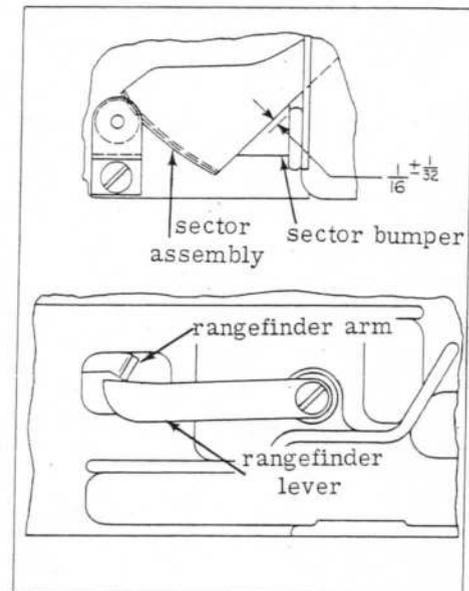

Figure 18A. Lever & Sector Assembly
1. If two rangefinder windows (26) have been removed, cement in place in housing sub assembly using Cordo #2055 adhesive and insert two window retainers (25).
2. Position sector assembly (18), lockwasher (17), rangefinder lever (15). Assemble machine screw (16) but do not tighten.
3. Assemble pinion (14), pinion spring (13), pinion bracket (10). Assemble machine screw (12) and machine nut (11). Tighten machine screw (12) first, then machine nut (11). Tighten machine screw (16). Assemble tail of pinion spring in gear tooth of pinion. Disengage sector assembly from pinion by lifting upward and apply approximately four turns initial tension on focusing pinion shaft and re-engage sector assembly so that gear tooth, with spring, does not engage in a tooth of sector assembly during its travel. Position of lever assembly and sector assembly is illustrated in figure 18A above.
4. If removed, re-cement sector bumper (9) in position as illustrated in figure 18A above.
5. Assemble rangefinder shield (7) and secure with machine screw (8).
6. If insulators (6 and 5) and insulator (4) have been removed, cement in place using 3 M EC 880 adhesive.
**NOTE:** If insulator (4) is being used with battery contact plate assembly having electrical tape on rear side, remove electrical tape.
7. Assemble circuit plate complete (2) and drive in two machine screws (3). Apply 3M EC880 adhesive to two bosses on inner front of rangefinder housing.
8. Apply 3M EC 880 adhesive to two rangefinder housing bosses and assemble battery partition (1).